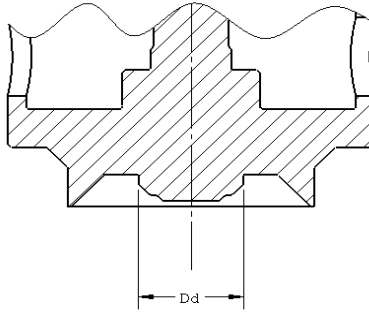

Figure 24: Critical Disk Dimension
4. Referring to Figure 24, measure the diameter D_d . This diameter must be within the range of values listed in Table 4.